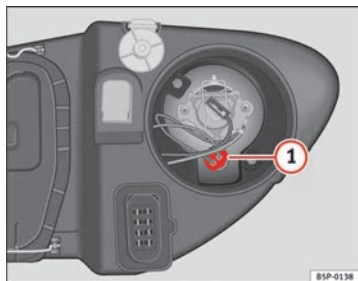

Fig. 193 Side lights
- Extract the bulb holder ⇒ fig. 193 **1** outwards.